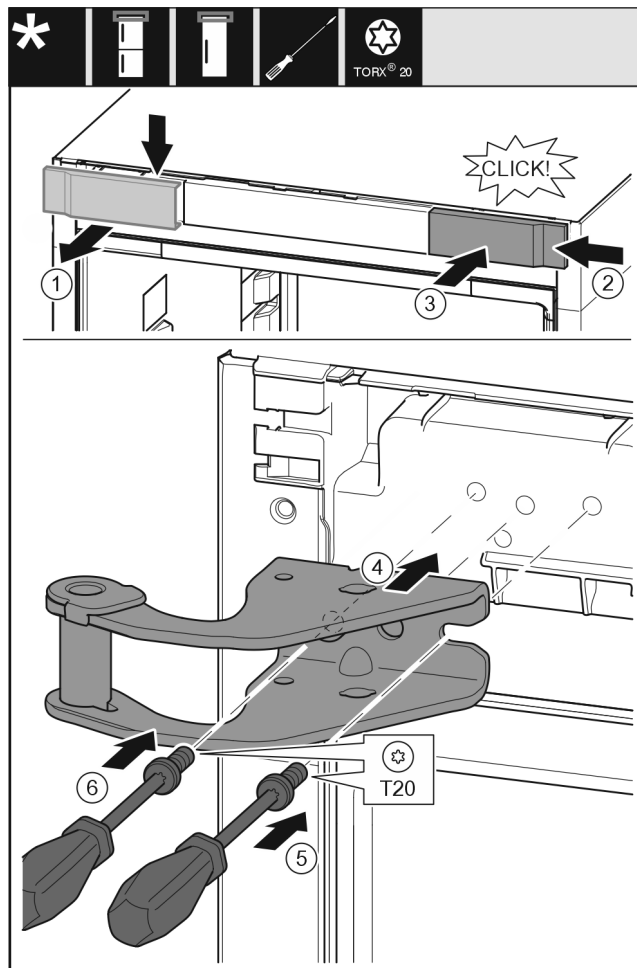

Fig. 32
- Remove the cover Fig. 32 (1) from the top towards the front.
- Hang the cover Fig. 32 (2) from the right turned by 180° to the other side.
- Snap in the cover Fig. 32 (3).
- Attach the top swap bearing block Fig. 32 (4).
- Attach and tighten the screw Fig. 32 (5) with a screw-driver.
- Attach and tighten the screw Fig. 32 (6) with a screw-driver.